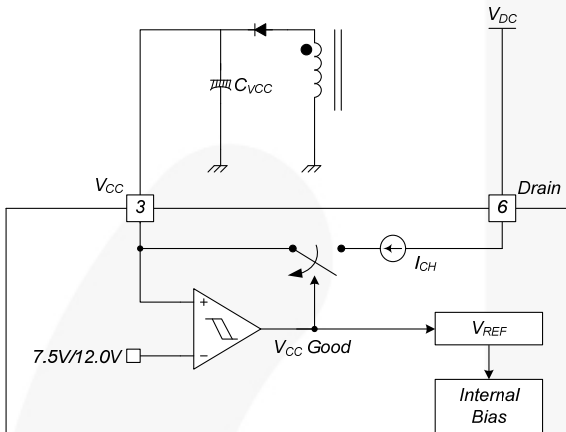

Figure 17. Startup Block
**1. Startup:** At startup, an internal high-voltage current source supplies the internal bias and charges the external capacitor ( $C_{VCC}$ ) connected to the  $V_{CC}$  pin, as illustrated in Figure 17. When  $V_{CC}$  reaches 12V, the FSL126MRT begins switching and the internal high-voltage current source is disabled. Normal switching operation continues and the power is supplied from the auxiliary transformer winding unless  $V_{CC}$  goes below the stop voltage of 7.5V.